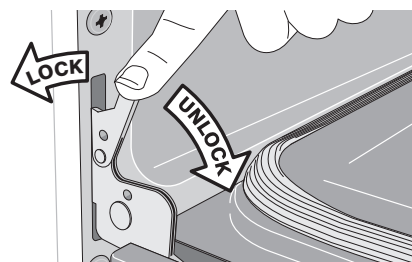

Figure 10: Hinge locks
2. Pull down the door hinge locks located on each hinge support toward front of the oven until the lock stops. (Figure 10).